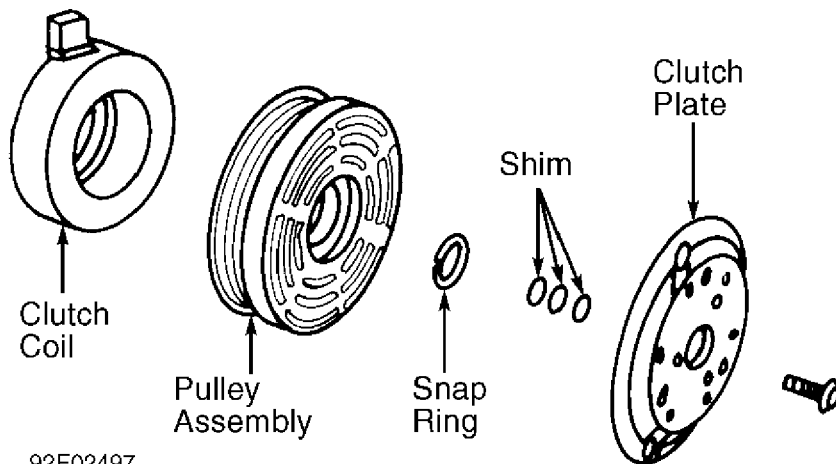

Fig. 6: Exploded View Of Compressor Clutch (Ford FX-15)
1) Using Clutch Holder (000 41 0812 05), remove clutch plate bolt. Using an 8-mm bolt threaded into clutch plate, remove clutch plate and shim(s). See Fig. 6.